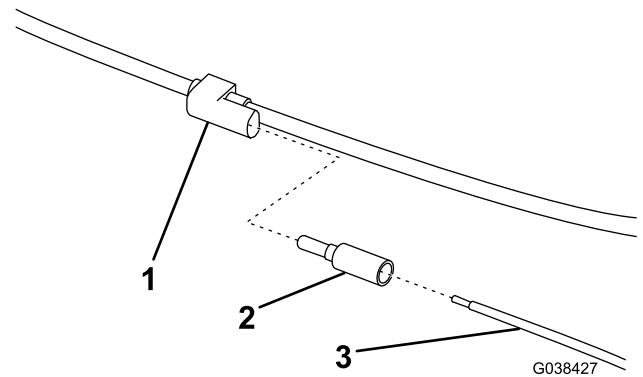

Figure 10
12. Connect the black/red wire to a keyed 12 V+ ignition source (Figure 10).